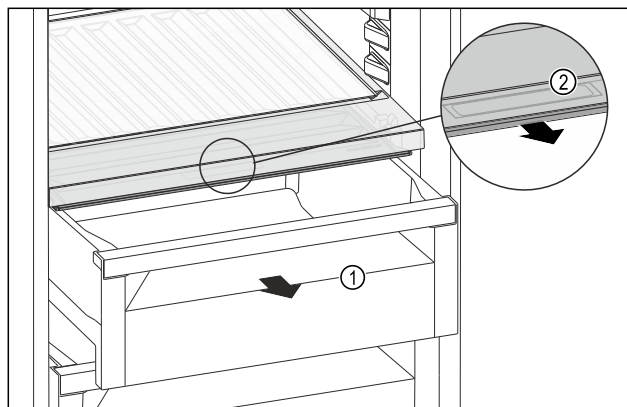

Fig. 95
- ▶ Pull out the drawer Fig. 95 (1).
- ▶ Grasp the recessed grip Fig. 95 (2) on the compartment lid and pull the compartment lid forwards at the same time.